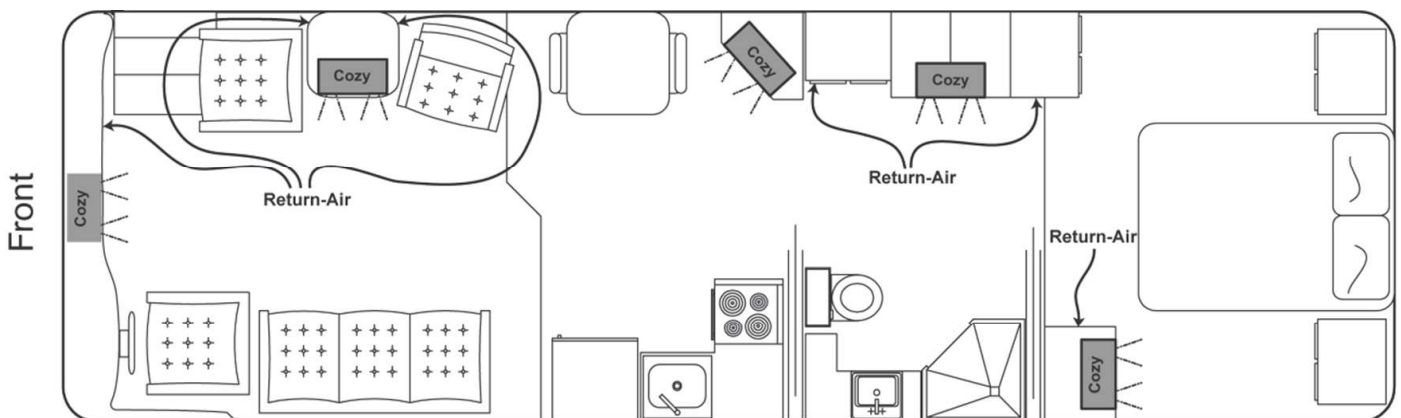

Figure 139
- Must be cold air returns installed for every heat exchanger (reference Figure 139)